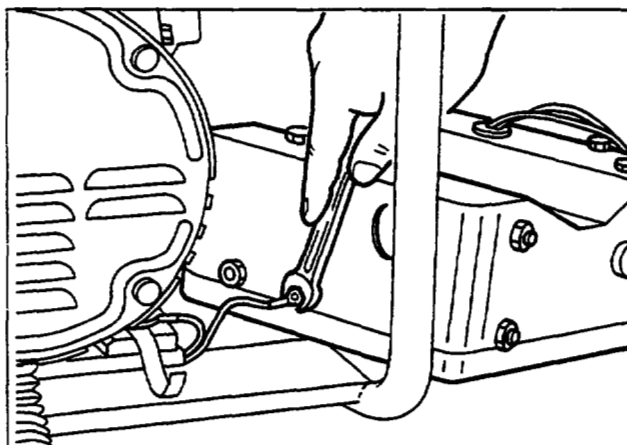

Fig. 10-42
- (1) Attach the 6 ϕ terminal of the grounding wires to the bottom of the control box. (See Fig. 10-42.)